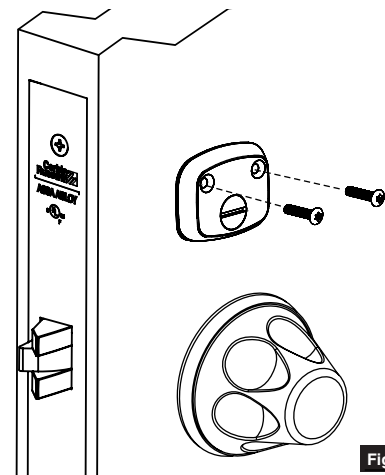

Figure 31
1. Install coin-turn using two surface mount screws. (Figure 31)